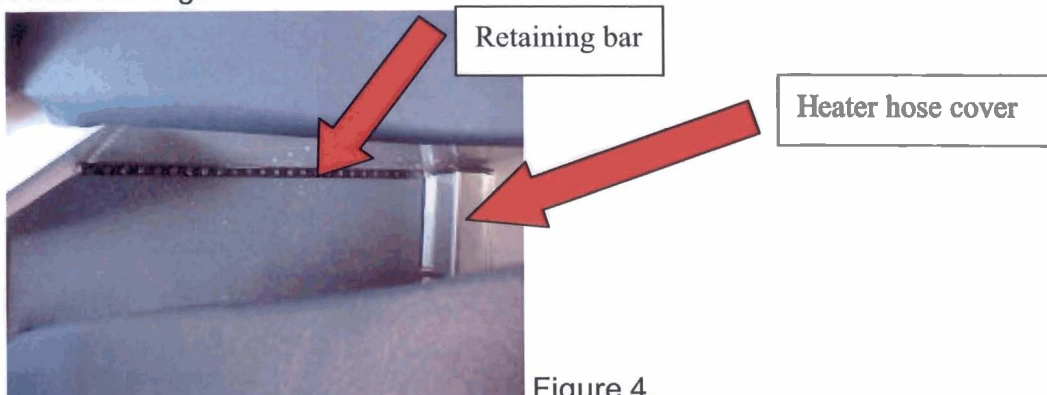

Figure 4.
13. Place the remaining retaining bar along the left hand side of the davenport closeout. The retaining bar on the left hand side must not be placed all the way to the side wall due to the heater hose cutout in the davenport cover. The outside end of the retaining bar must be lined up with the cutout in the davenport closeout for the heater hose. The end of the heater hose cover must be lifted to locate and mount the end of the bar. To lift heater hose cover remove screws as needed. See Figure 4.